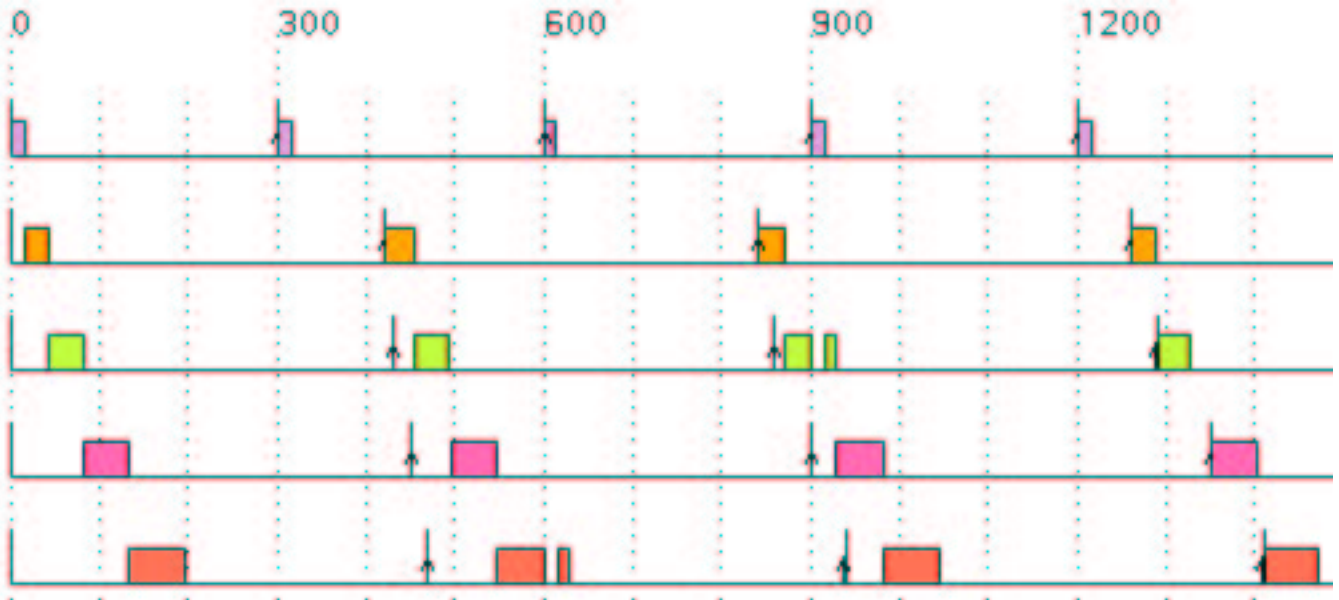
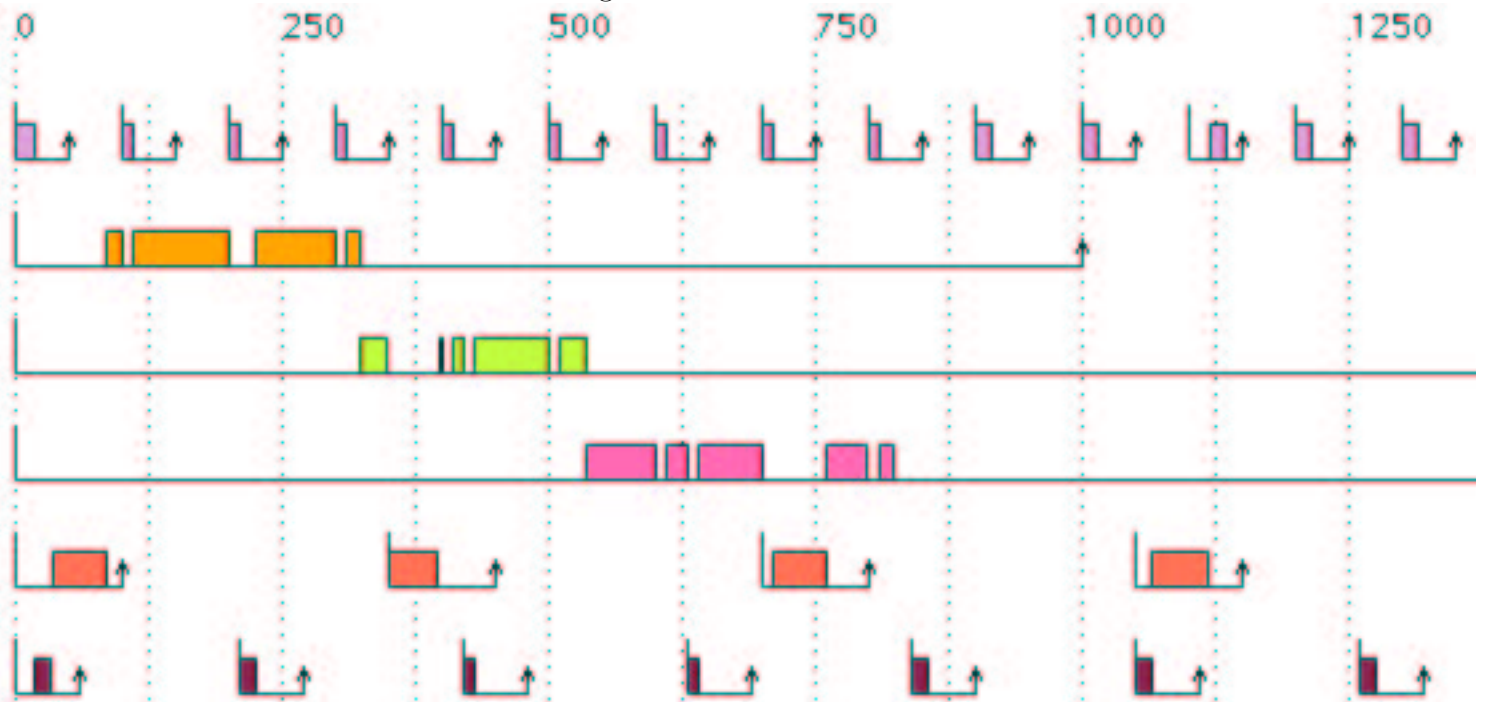

Figure 2: Scheduler 1
Figure 3: Scheduler 2
- a) (4 marks) The standard Linux fix priority scheduler can be replaced with an alternative scheduler. In Figure 2 and Figure 3 we illustrate the scheduling results two different alternative RT-Linux schedulers studied in class.
- i) What scheduler do you believe has been used in Figure 2? Why do you believe this?
- ii) What scheduler do you believe has been used in Figure 3? Why do you believe this?